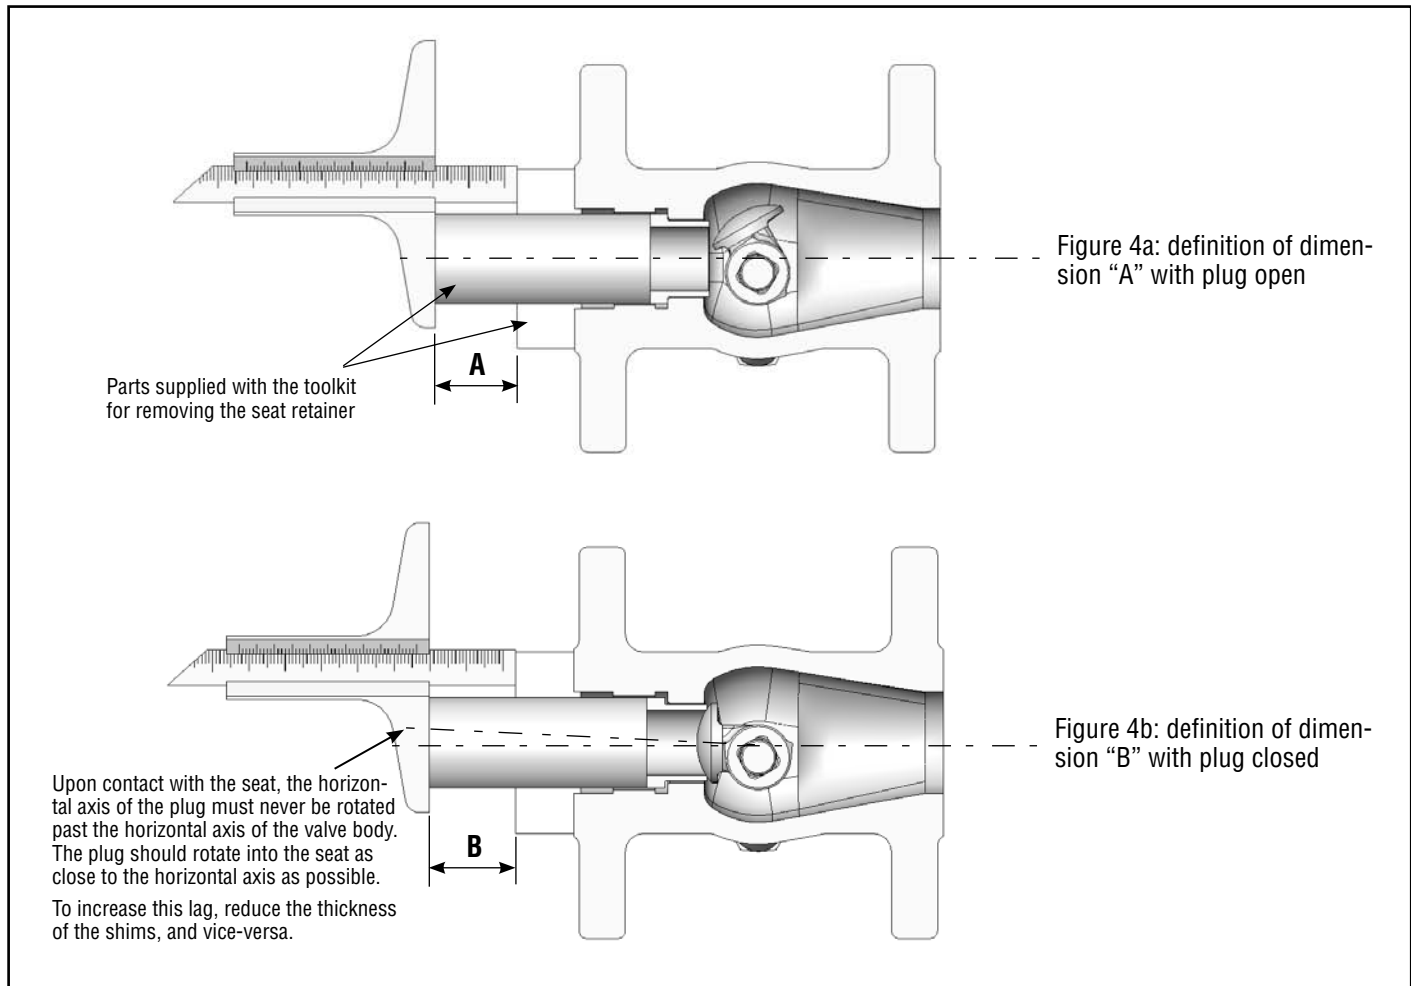

Figure 4: shimming the seat
- 8.1 To replace the seat, see figures 4 and 5, and proceed as follows: